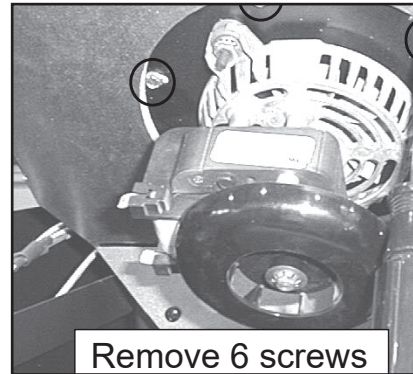

Figure 27.2
- Remove 6 screws using a flathead screwdriver or a 1/4" nut-driver. Retain screws for use on replacement blower (**Figure 27.2**).